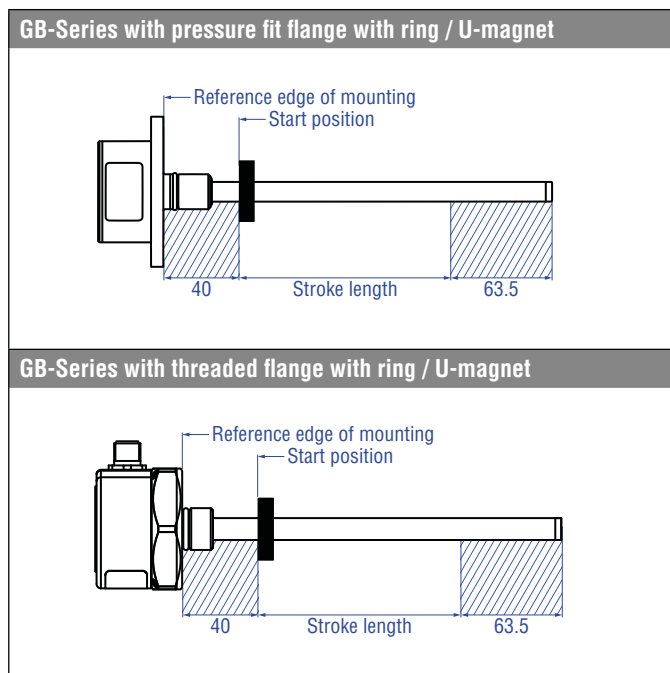

Fig. 17: Active measuring range
- 1 Null zone, depends on sensor model (see Fig. 17)
The technical data of each sensor is checked as well as documented and the active stroke length (useful electrical stroke) with its start and end position is adjusted during final inspection and testing (Fig. 17). To ensure that the entire measuring range can be used electrically, the position magnet must be mounted mechanically as follows:
5. Check the pre-set span start and end values of the measuring range (Fig. 17) and correct them via the customer's control system if necessary, or via the MTS Sensors service tool. The operation of the service tool is described in detail on the following pages.